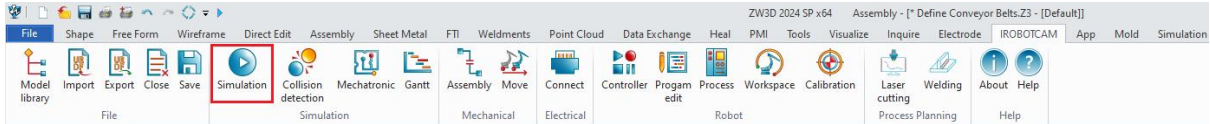

Figure 6-19: Simulation Button
- Click the simulation button Under the "IROBOTCAM". (Figure 6-19)